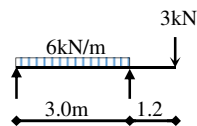

Fig. 9
- 8. A timber beam having a rectangular cross section 240 X 85mm wide is loaded as shown in figure 9. Determine the following: